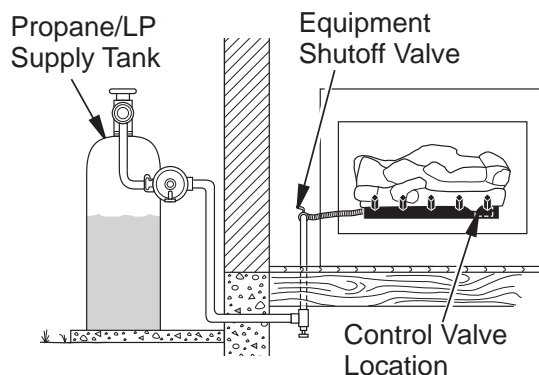
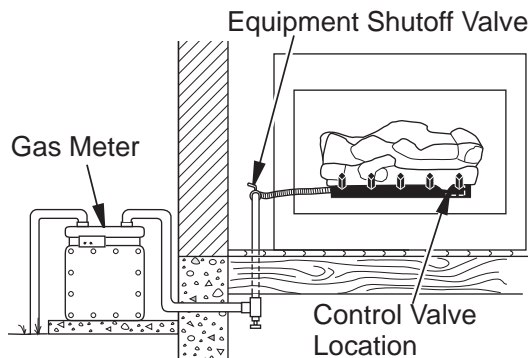

Figure 16 - Checking Gas Joints (Propane/LP Only)
Figure 17 - Checking Gas Joints (Natural Gas Only)
3. Check all joints from gas meter to equipment shutoff valve for natural gas or propane/LP supply to equipment shutoff valve for propane/LP (see **Figures 16 or 17 on Pages 15 and 16**). Apply noncorrosive leak detection fluid to all joints. Bubbles forming show a leak.
4. Check all joints from gas meter to equipment shutoff valve for natural gas or propane/LP supply to equipment shutoff valve for propane/LP (see **Figure 16, Page 15** or **Figure 17**). Apply noncorrosive leak detection fluid to all joints. Bubbles forming show a leak.